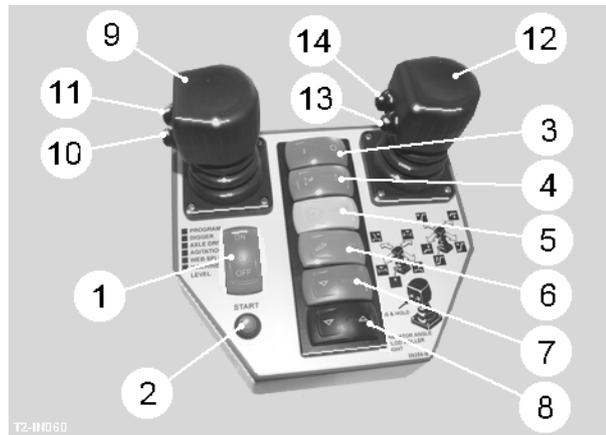

Fig 2
The touch-screen service terminal (see fig 1) and the slave box (see fig 2)) should be mounted inside the tractor cab so that controls can be comfortably reached from the drivers seat.
Along with the touch-screen service terminal, all of the commonly used ram service controls are repeated on the slave box (see fig 2).
On the slave box, press the red rocker switch (item 1, fig 2) to the ON position. The following screen will show on the service terminal when it is ready (see fig 6).
On the slave box, press the green START button (item 2, fig 2), this will turn on the control module on the harvester.
To turn off, touch the red and yellow emergency stop pad on the service terminal screen. The display reverts to the screen above. At the screen above, turn OFF the red rocker switch (item 1, fig 2) on the slave box. The screen will go blank.